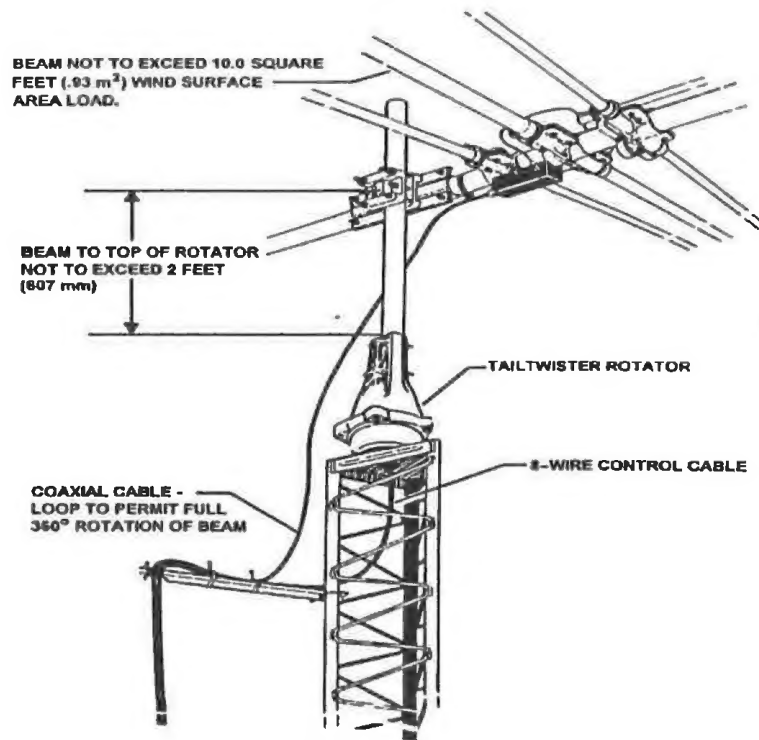
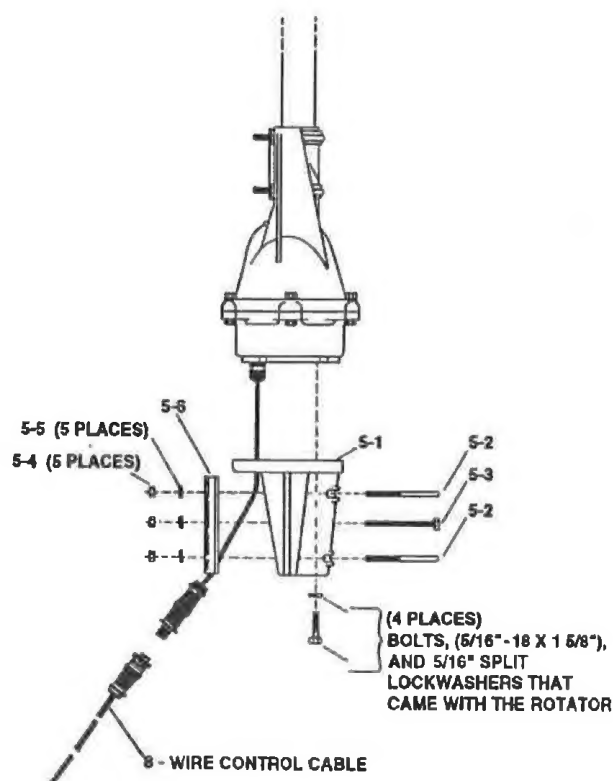

Figure 5
Figure 6
2. An "outside" Tower Mount (see Figure 6) is optional. The rotator is not well protected but the installation is simpler. With an "Outside" Tower Mount, the rotator must be derated to 10 square feet (.93 m²).
Referring to Figures 5, 6, and 7, an outside tower or pole mount is made in the same manner except that the rotator is fastened by four (4) bolts only (not six) to the Lower Mast Support, PN 5146710. Since the eccentricity of the rotator turning in reference to the tower is no longer important, the shimming procedure is not necessary. The four (4) screws must be torqued to the same specification and the 8-wire cable securely fastened. The lower mast should be pinned with the 5/26"-18 x 4" bolt as shown in Figure 6.
The stock Taittwister T2X is intended to mount on the base plate inside of the tower. However, in some instances, outside tower or mast mounting is desired as per Figures 5 and 6. This kit, P/N 5146710 contains a heavy-duty lower mast support and the necessary hardware to facilitate mounting the T2X on top of a tower stub or mast.